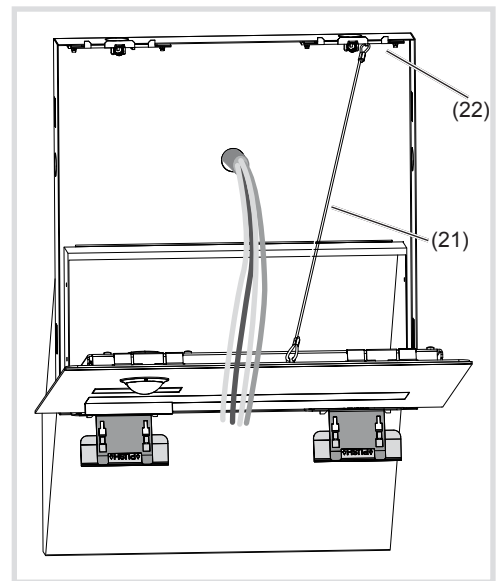

Figure 7: Installation position of audio letter box front
- Attach the loops of the safety rope (21) between the centre upper suspension of the letter box front and right upper fastening element (22) in the housing. Position the audio letter box front to install on the opening tools (Figure 7).